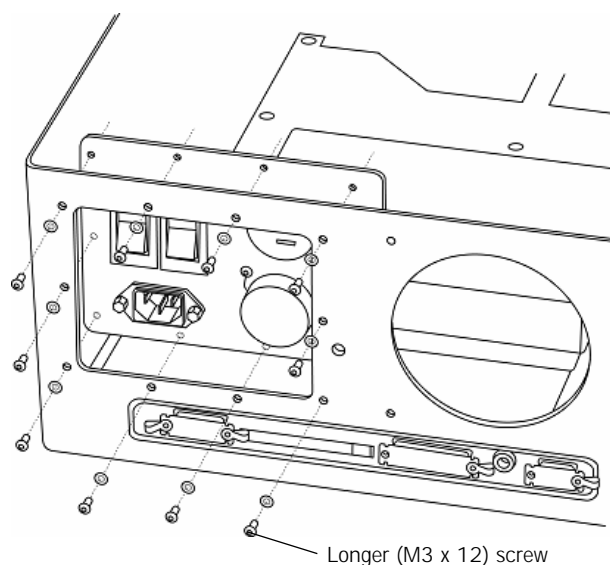
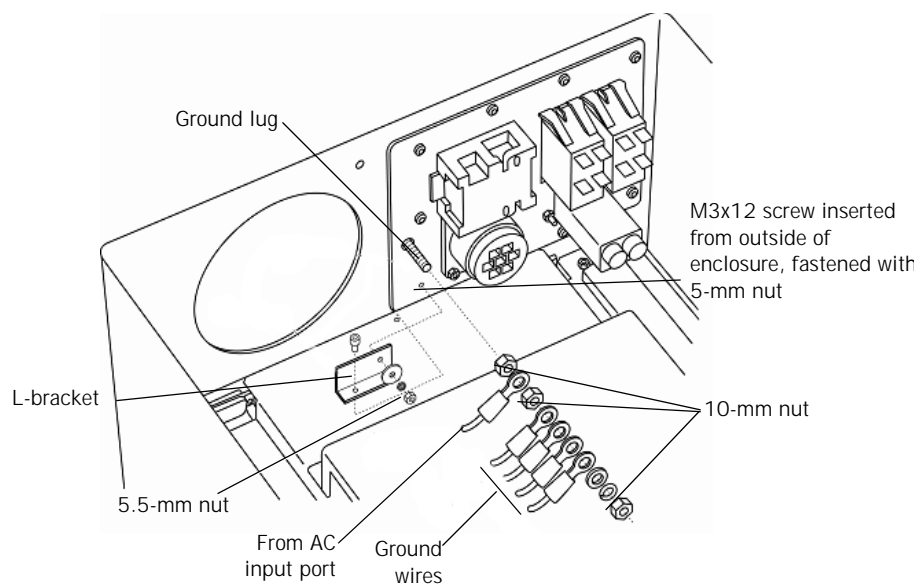
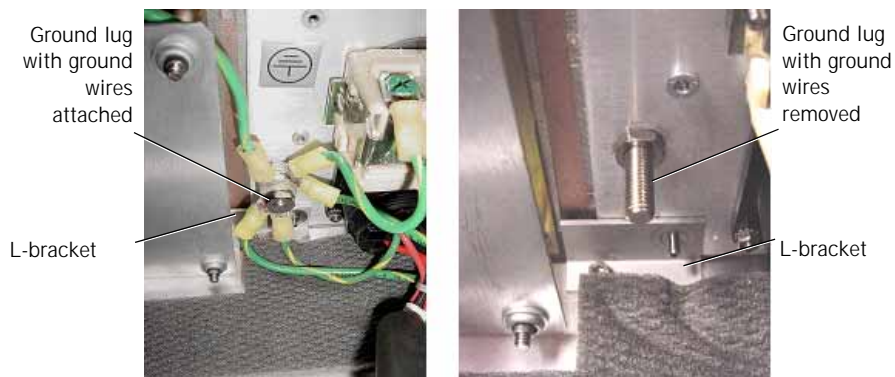

Figure 10-26: AC Distribution Panel (From Outside the Top Enclosure)
Figure 10-27: AC Distribution Panel (From Inside the Enclosure)
Figure 10-28: Ground Lug and L-Bracket
Follow these steps to remove the AC distribution panel (Figure 10-26 through Figure 10-28). Reverse removal steps to install.
2. Remove the ten screws and washers that hold the AC distribution panel to the enclosure (Figure 10-26). Note that one screw is longer (M3 x 12) and is fastened on the inside of the enclosure with a 5.5-mm nut.
3. Remove the 10-mm nuts and washers holding the ground wires to the ground lug and top enclosure (Figure 10-27 and Figure 10-28). Remove the lug.